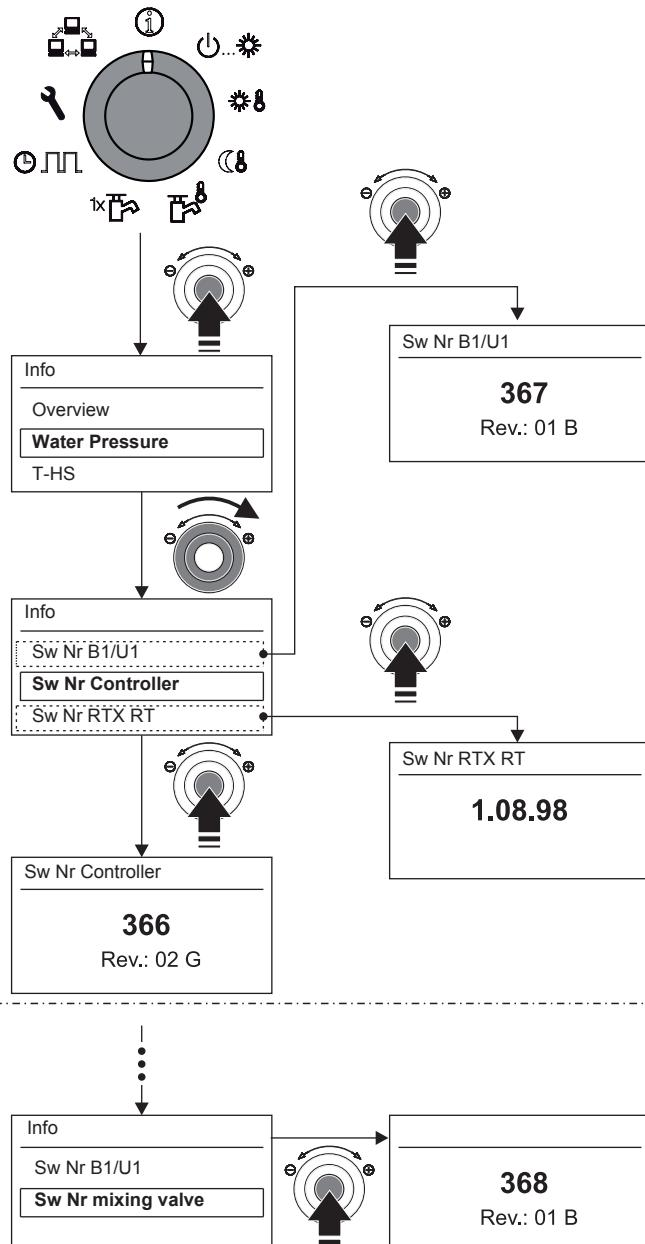

Fig. 7-4 Software information of the controller components
Have the significant equipment data to hand (see fig. 7-4 for the procedure):
- Software versions (see fig. 7-4) of: